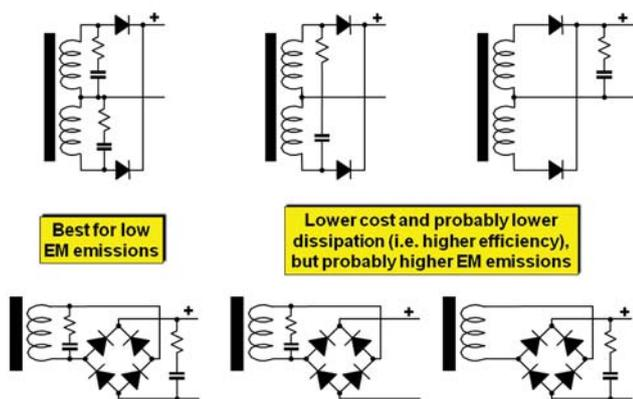

Figure 6.2-1 Snubber designs for different types of HF output rectifiers
Figure 6.2.1 shows various resistor-capacitor (RC) snubber designs for use with different types of HF output rectifier circuits. Synchronous rectifier technologies are not shown, but will generally need snubbing in a similar manner.
If the circuits of Figure 6.2-1 don't work as well as hoped, it may be due to the circuit's strays or parasitic, and it could be worthwhile experimenting with other locations for snubbers to see if they work better, before redesigning the power converter's